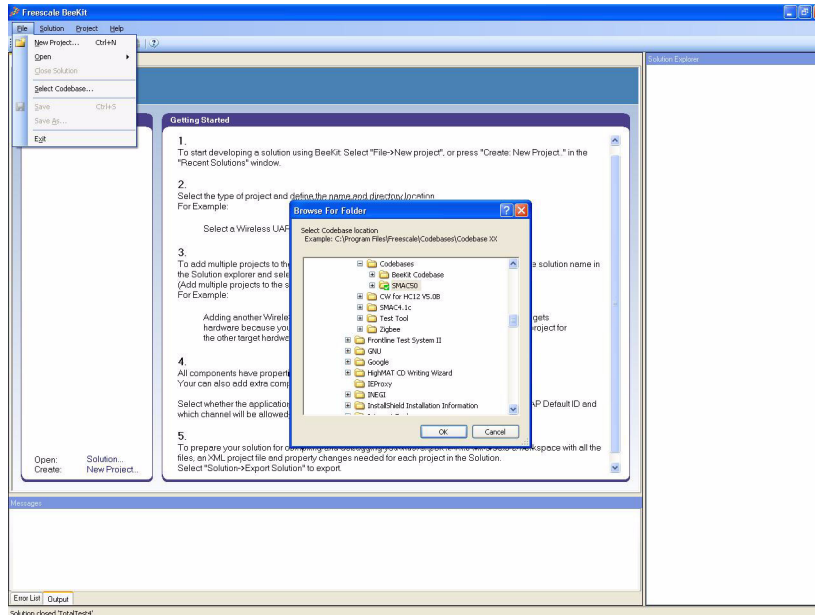

Figure 3. selecting SMAC Codebase
2. Select SMAC Codebase as shown in Figure 3.